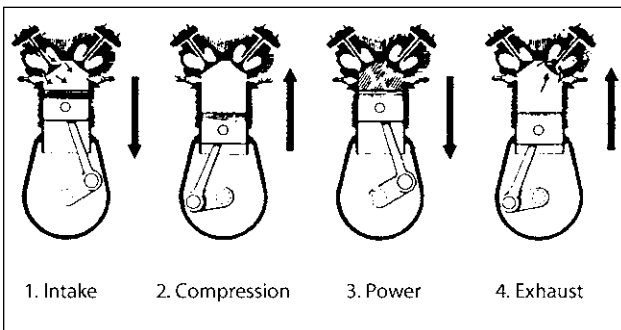

Figure B-2. The four strokes. The cylinder is shown as upright rather than horizontal here.
The engine uses the “Otto cycle” in operation and works this way: The pistons, enclosed in the cylinders, move *in and out* within a limited distance. The burning of the fuel-air mixture pushes the piston in, and it is attached by a connecting rod to an offset section of the crankshaft. Because of that offset section, the back and forth motion of the piston is translated to a rotary motion of the crankshaft, which in turn rotates the propeller either directly or through a gearing system. Most lighter airplane engines have direct drive; that is, the propeller is directly attached to and rotates at the same speed as the engine crankshaft. Higher horsepower engines may have gears that reduce the propeller rotation speed. The engine has four strokes (Figure B-2):
The crankshaft has to make two full revolutions for each cylinder’s power stroke, as you can see by analyzing Figure B-2. This sequence is happening in other cylinders at different times, and each power stroke turns the crankshaft and provides for the intake, compression, and exhaust strokes as needed for the other cylinders.
Figure B-3. A—Piston and components: (1) piston, (2) compression rings, (3) oil regulating or oil scraper ring, (4) piston pin (sometimes called “wrist pin”), (5) piston pin plugs, (6) connecting rod (from piston to crankshaft), (7) bushing, (8) connecting rod bolts, (9) connecting rod nuts, (10) connecting rod bearings (replaceable). The line C-C shows where the connecting rod joins the crankshaft. B—Two views of a cylinder. Note the cooling fins. Look at Figure B-2 again.